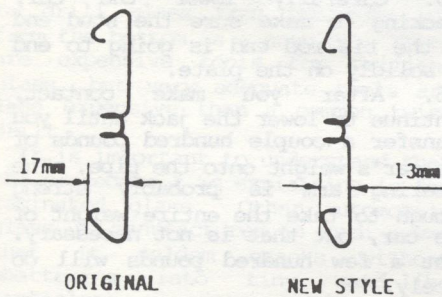

Figure 3. Spring clip. Original and new style.
3. Install a new style spring clip (P/N 91-03-995). Spring clips purchased from a Saab dealer's parts supply have different dimensions from the clip originally fitted to the caliper. See figure 3.